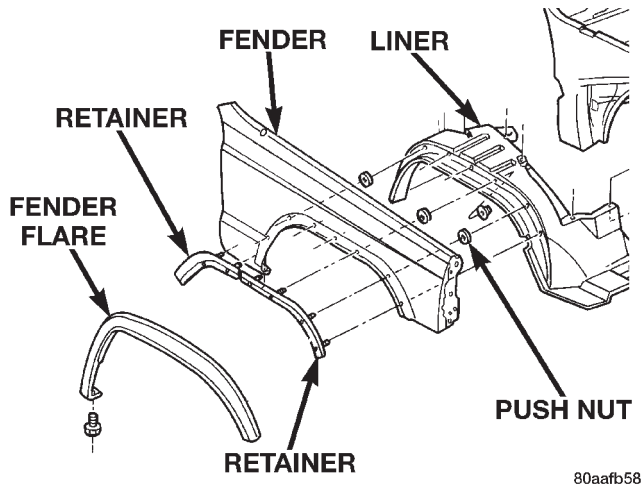

Fig. 17 Fender Flare
(1) Remove the screw attaching the lower part of flare to the bottom of the fender.
(2) Remove the nuts attaching the fender flare retainer to the wheelhouse splash shield (Fig. 17).
(3) Remove the liner from the fender.
(4) Remove the fasteners attaching the fender flare and retainer to the fender.
(5) Separate the fender flare and retainer from the fender.